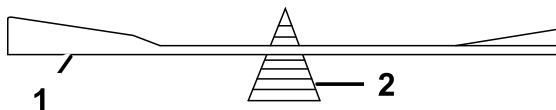

Figure 54
- Check the balance of the blade by putting it on a blade balancer (Figure 54).